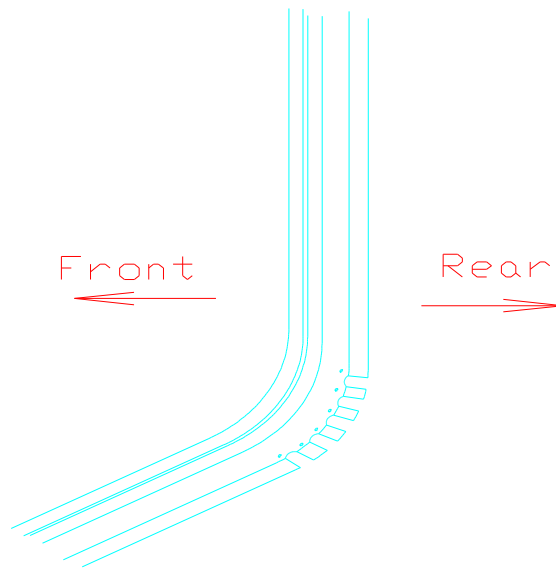

Figure 12.27.3
- 10) Clamp two additional bulkheads in place back to back with the original bulkheads. Figure 12.27.3.